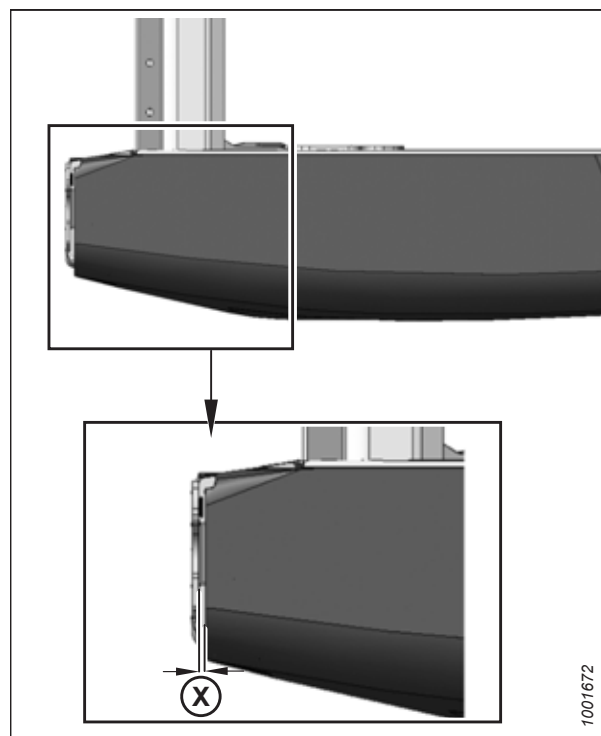

Figure 3.16: Left Endshield
3. Loosen nut (A) on pin (B) from inside the endsheet using a 19 mm (3/4 in.) socket.
4. Close the endshield and adjust its position to achieve the gap (X) (shown in Figure 3.16, page 41) between the front end of the endshield and the header frame.
5. Open the endshield and tighten nut (A).
6. Loosen the bolts on catch (C), and adjust the catch as required to reposition the endshield.
7. Ensure there is a snug fit between the top of the endshield and the header frame and that the endshield is fully engaged on pin (B).
8. Tighten the bolts on catch (C).